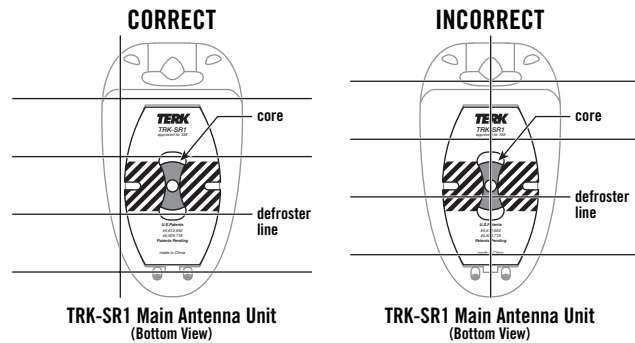

Figure 10. Correct and incorrect placement of the Main Antenna Unit.
- Enter the vehicle and verify that the exposed core of the Main Antenna Unit does not cross any defroster or antenna lines, as shown in Figure 10 below. If it does, repeat steps 3 through 6 until the correct position is found. Also verify that the interior headliner does not cover the top of the template. If it does, move the template down to another correct position.